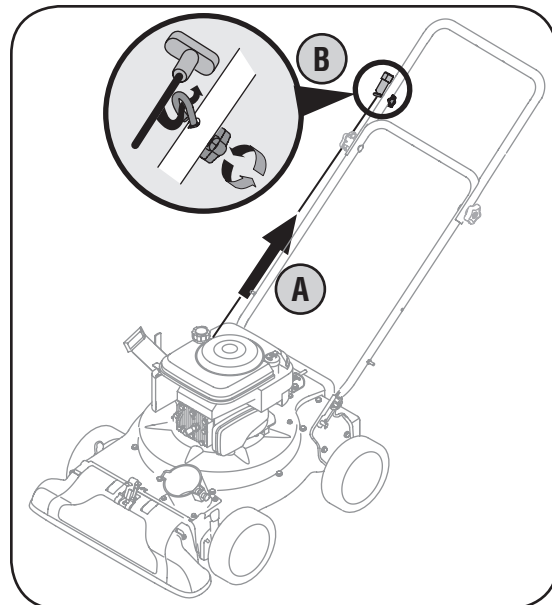

Figure 3-3
- Slip the starter rope into the rope guide. Tighten the wing nut. See Figure 3-3.